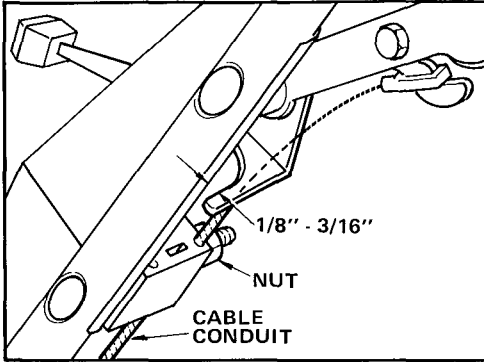

Figure 23
2. **CHECK ADJUSTMENT** (Fig. 23) — Move control bar toward handle until slack in wire is removed. Gap between brake lever and handle
3. ADJUST CABLE CONDUIT — Loosen nut on cable bracket (Fig. 23). Insert 1/8"-3/16" object between brake lever and handle. Pull down on cable conduit until all slack is removed from wire. Then tighten nut.